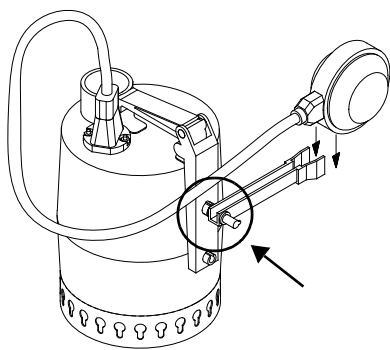

Fig. 26 Lever arm on Unilift KP
* Unilift KP: Use only the high position. See fig. 26.